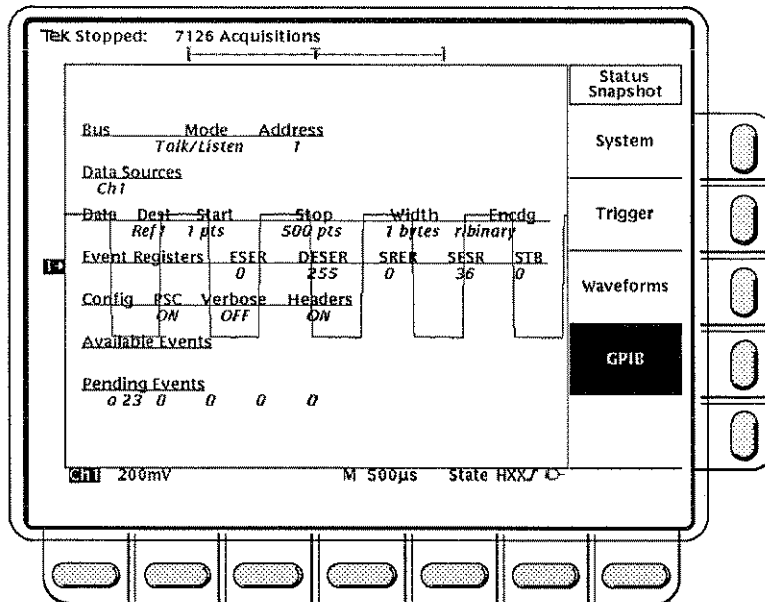

Figure 3-66: Status Menu – GPIB
- Step 5:** Select **GPIB** from the menu to display information about the GPIB system (Figure 3-66).